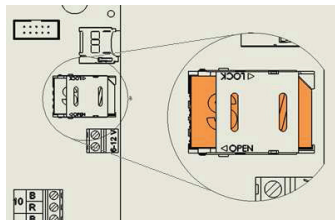

Figure 11: Correctly Inserted SIM Card
- Slide the SIM card case cover to the side to open it, as indicated by the arrow labeled OPEN (see Figure 11).
- Hold the SIM card case cover down while you slide the cover to the side, as indicated by the arrow labeled LOCK (Figure 11).